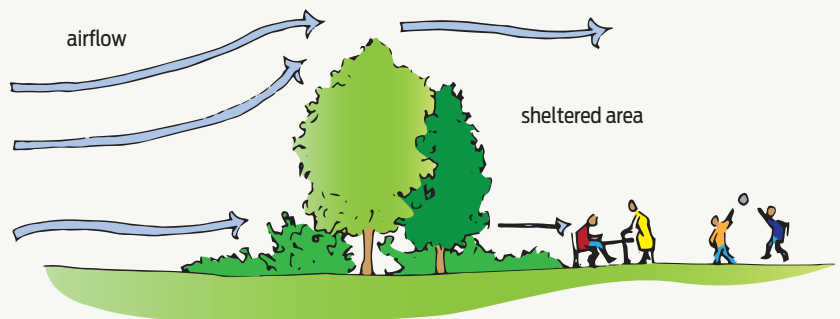

Figure 6 Optimum shelter belt profile.
- when there is a narrow band of planting, it should present a vertical face to the prevailing wind to provide maximum shelter (see Figure 6)